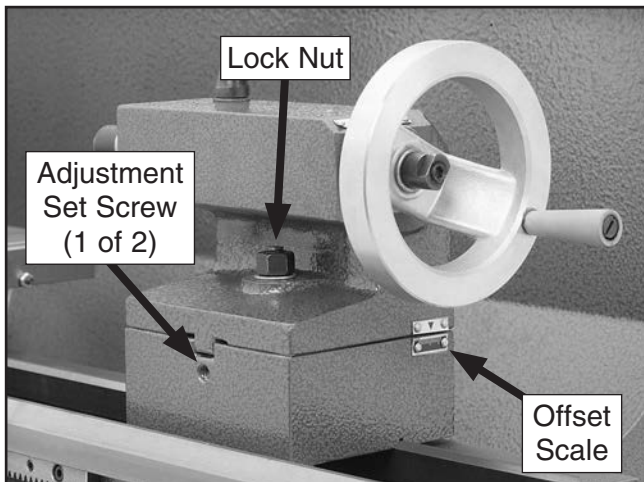

Figure 28. Tailstock offsetting controls.
1. Loosen the tailstock lock nut (see **Figure 28**).